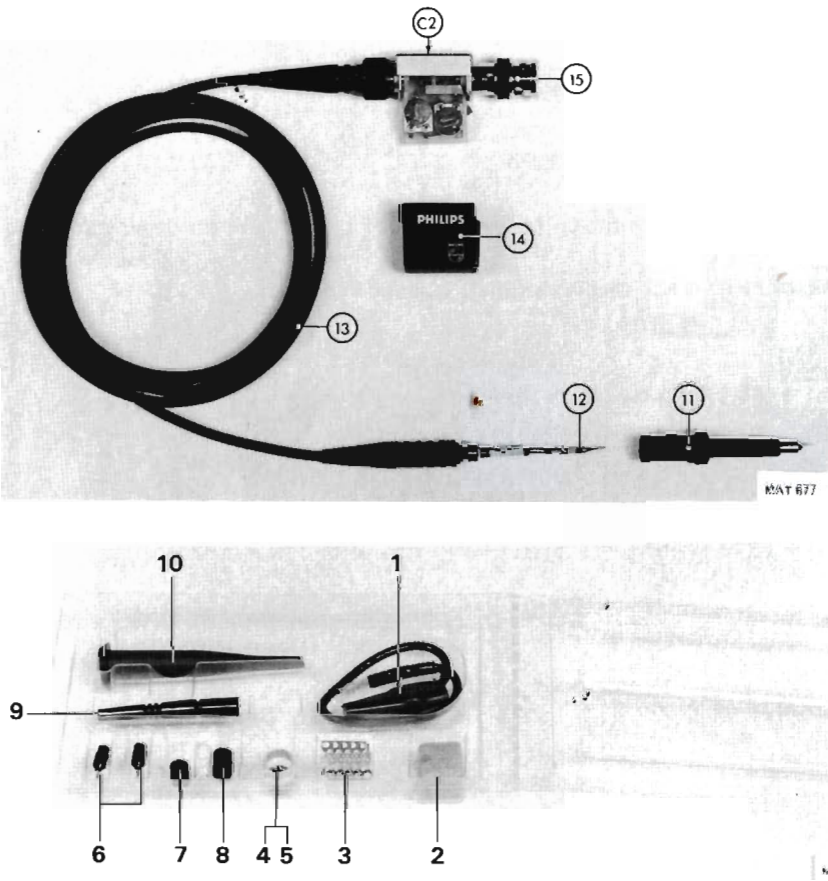
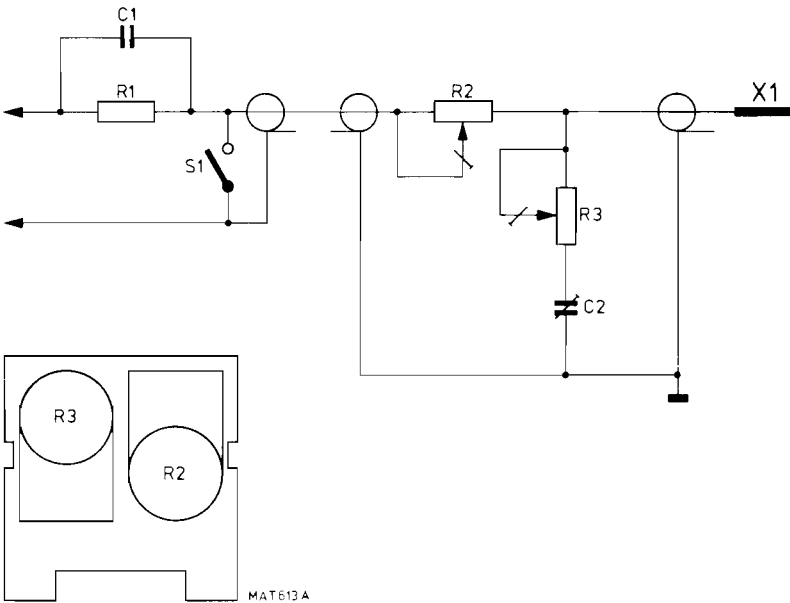

Fig. 6.15. Dismantling + accessories
Fig. 6.16. Printing wiring board showing adjusting elements, circuit diagram
*Dismantling the probe (see Fig. 6.15.)*
*Dismantling the compensation box (see Fig. 6.15.)*
Mechanical parts (see Fig. 6.15. and Fig. 6.16.)